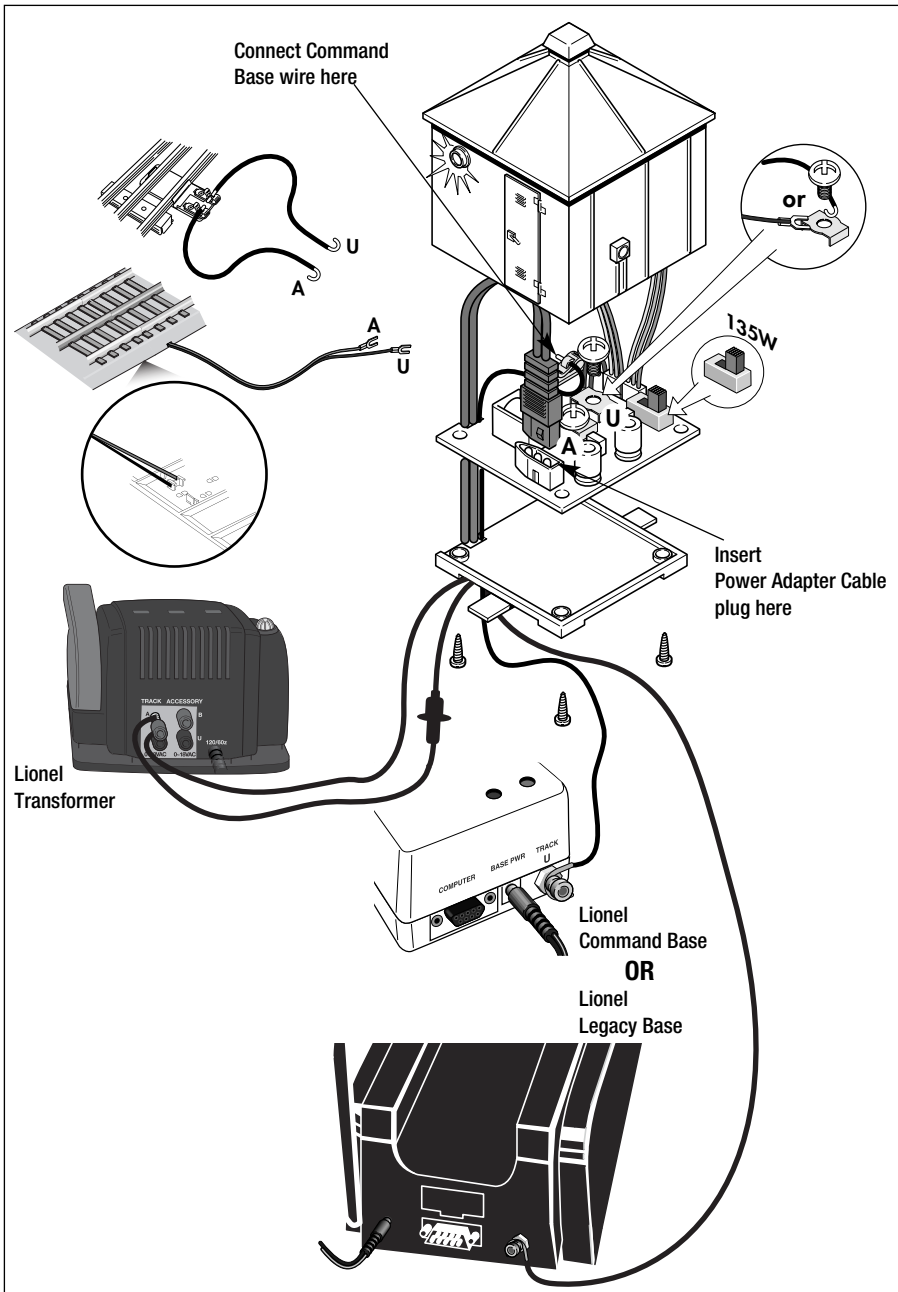

Figure 2. Using a Power Adapter Cable
**Y**ou also have the option to use a Power Adapter Cable (6-12893) that allows you to use any transformer, such as a CW-80 or a Post-War ZW, with your TMCC Direct Lock-on instead of a PowerHouse Power Supply. Follow these steps to connect the cable and refer to figure 2 on page 5.
- 6. Route the Power Adapter Cable cord and the Command Base or Legacy Base wire through the slot as illustrated in Figure 2.**
**Note** Because transformers other than the 180W PowerHouse have less amperage than 7.5 amps, you will want to set the amperage switch inside the Direct Lockon to 135W to ensure proper circuit protection. See figure 2 for the location of the switch.